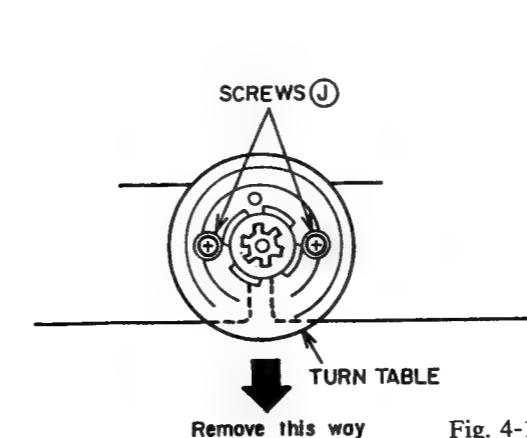

Fig. 4-10
- 1) Remove two fixation SCREWS **J** of the SPINDLE MOTOR through the hole on the TURN TABLE as shown Fig.4-10.